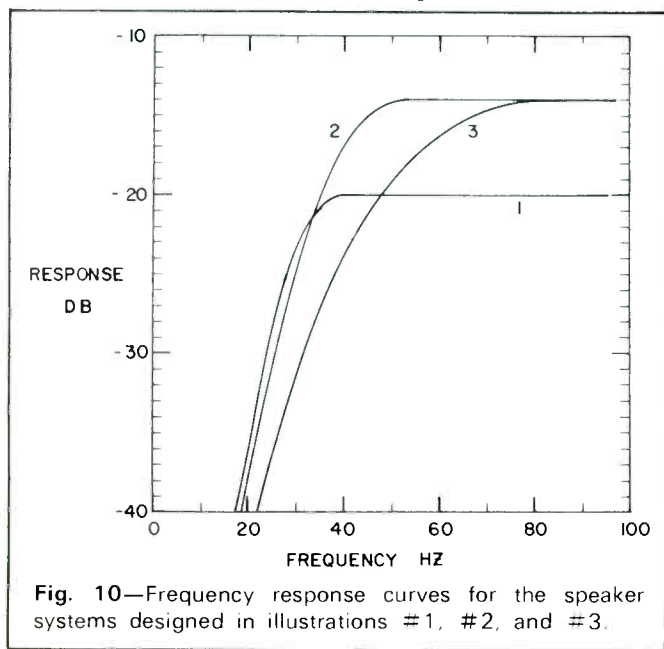

Fig. 10—Frequency response curves for the speaker systems designed in illustrations #1, #2, and #3.
These findings have been verified by computer analyses of systems designed according to the guidelines presented in this article. (See ref. 8.) The results of these studies have been used in preparing the design curves in Fig. 2, 3, 7, and 9. In Fig. 10, we show computer-generated response curves for the systems arrived at in design illustrations 1, 2, and 3.